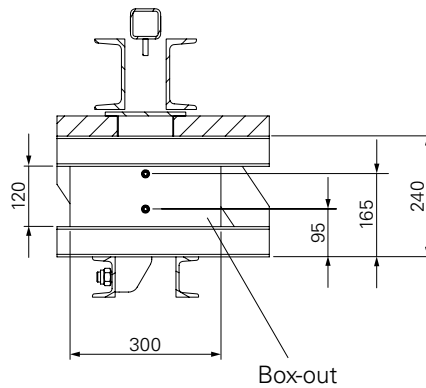

Fig. B1.10a
6. Place additional platform beams (**36a**) on the existing 1 and pre-drill with  $\varnothing 8$  mm, laterally spaced at distance c and below with spacings of 95 and 165 mm. (Fig. B1.10a)